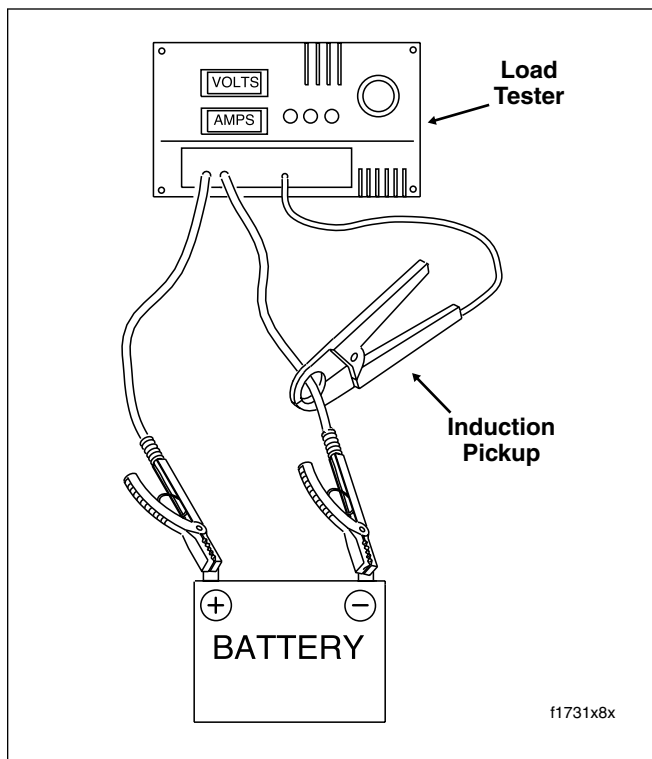

Figure 8-21. Load Test Battery
4. Connect tester leads to battery posts and place induction pickup over negative (black) cable. See Figure 8-21.